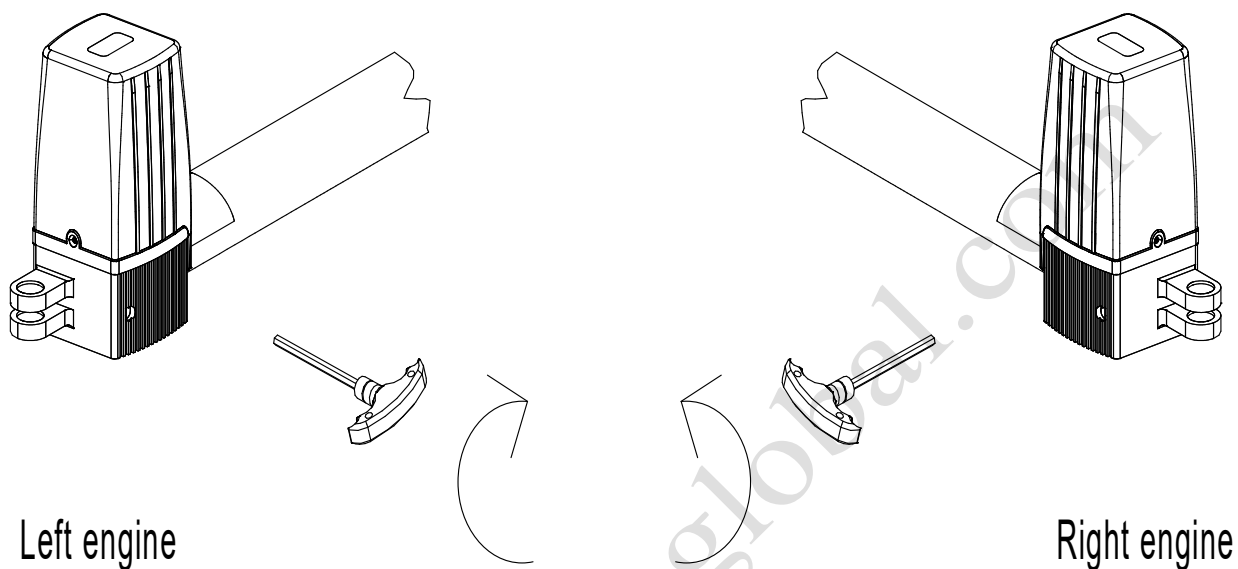

Figure 6
d) Before the installation, please unlock the main engine. Method: Remove the cover, insert the manual release bar, rotate the bar until the release, as shown in Figure 6, then turn the telescopic arm to make it easily stretch.